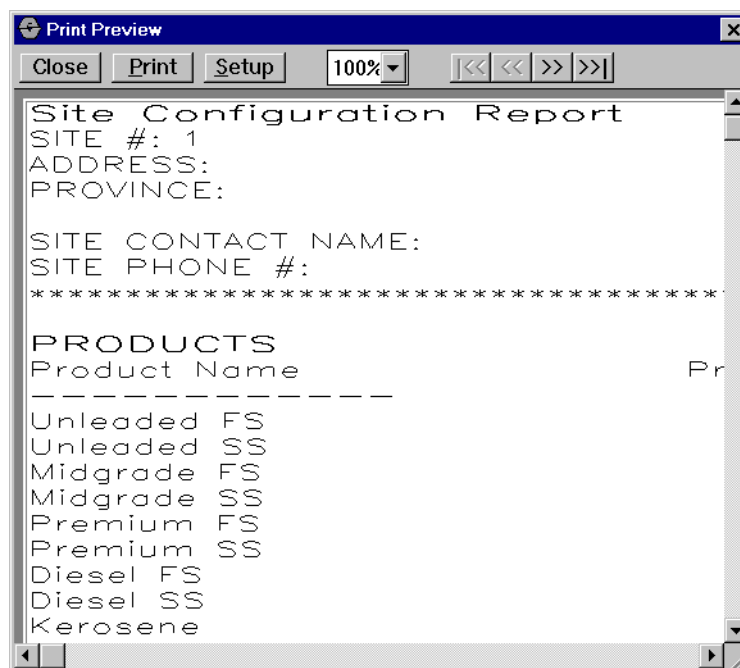

Figure 14: Print Preview Window
1. Select **Site, Site Configuration Report** to open the Print Preview window, *Figure 14*.